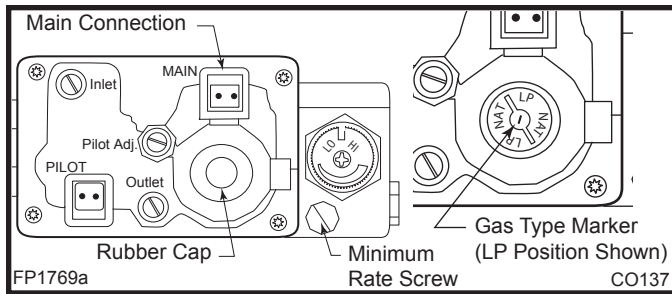

Fig. 55 Remove rubber cap and adjust gas type marker.
1. Remove the black cap by pulling the cap straight off. Note the position of the marker on the top of the rotary knob. This marker will point to NAT or LP. (Fig. 55)
3. Remove the minimum rate screw, using a small screwdriver, located in the valve next to the motor drive. (Fig. 55)